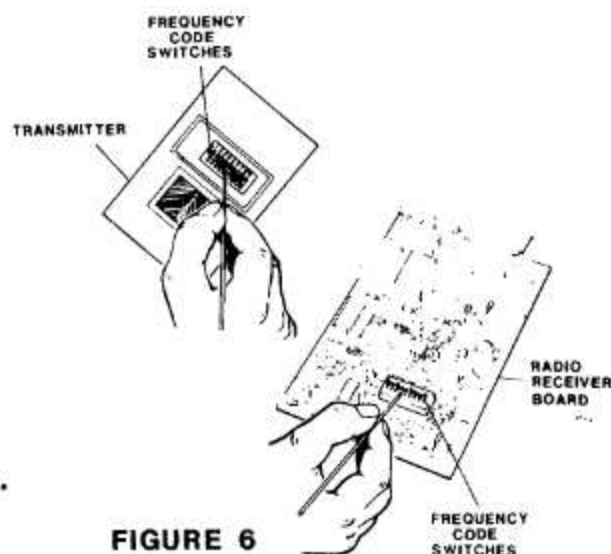

FIGURE 6
3. Locate frequency code switches in transmitter(s) and on operator receiver board (See Figure 6).